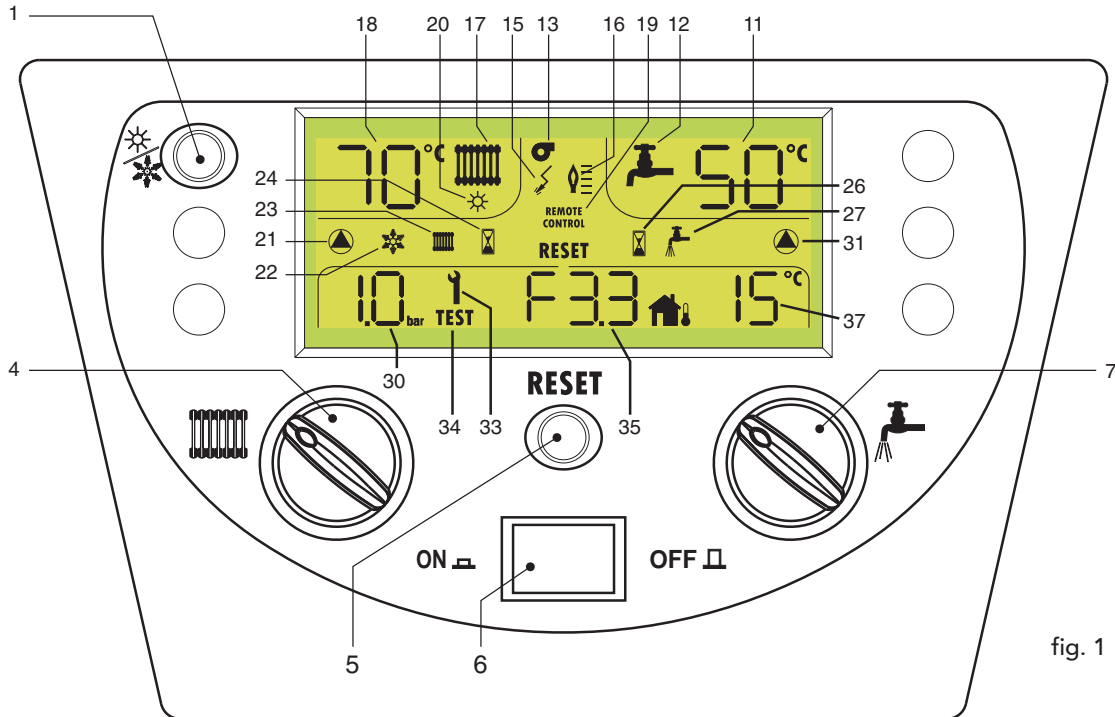

fig. 1
To reset the boiler, press Reset (5 - fig. 1).
This appears when the SUMMER mode is activated (☼ - 1 fig. 1).
- Press the ON/OFF key in to turn on boiler (see fig. 1).
Press the ON/OFF key (see fig. 1).
To select either mode, simply press the key  (1 - fig. 1).
If together with the fault the display also shows **RESET**, the user must reset boiler operation by pressing the key  (5 - fig. 1). The ignition cycle will thus be repeated.